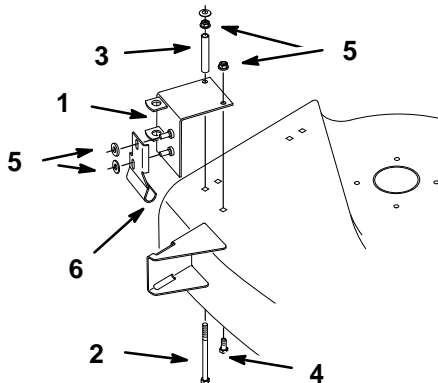

Figure 10
1. Locate the pivot support on the mower over square holes near the discharge opening (Fig. 10).
3. Secure the pivot support to the top of the mower with a 5/16 x 4" bolt, spacer tube and 5/16" x 7/8" bolt (from the underside of mower) and lock nuts (Fig. 10).
4. Secure the pivot bracket to the pivot support with 5/16 lock nuts (Fig. 10).